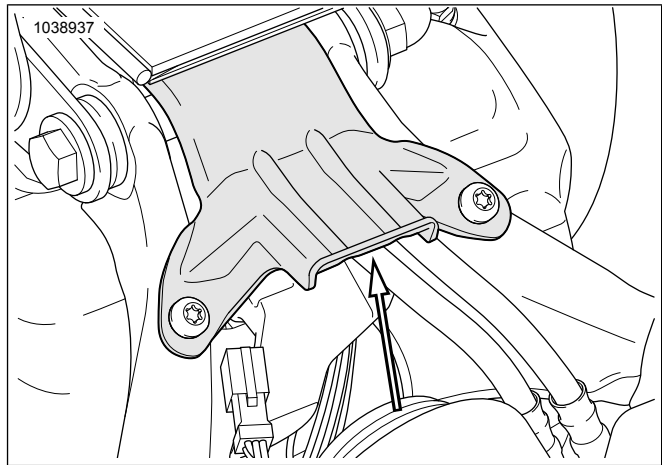
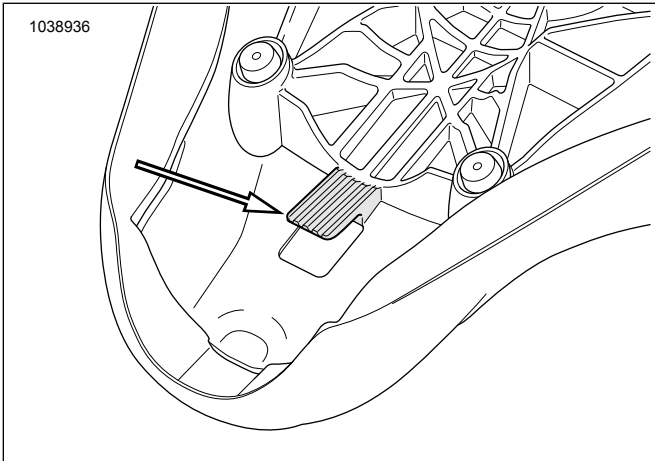

Figure 4. Seat Mounting Bracket
Figure 3. Seat Tongue (typical)
- a. Refer to Figure 3 and Figure 4. Engage seat tongue (B) in seat mounting bracket (A).
- b. Align seat grommet (2) on seat post (5) and push down on seat until you hear a click.